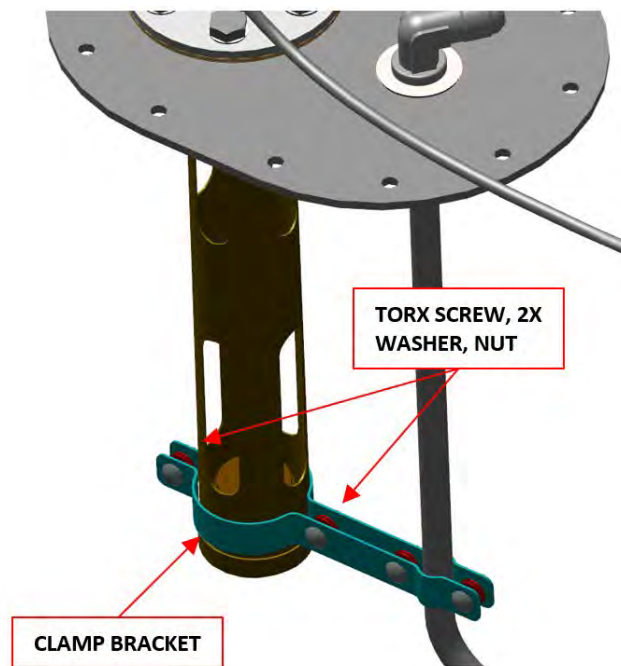

FIGURE 14-92
7. Remove the Fuel Level Sensor. See Figure 14-92.
- d. Install Torx screw, nut, and 2x washers on the Clamp Bracket. While maintaining this position, torque Torx screws on Clamp Bracket to 7-10 in-lbs. (See Figure 14-92.)